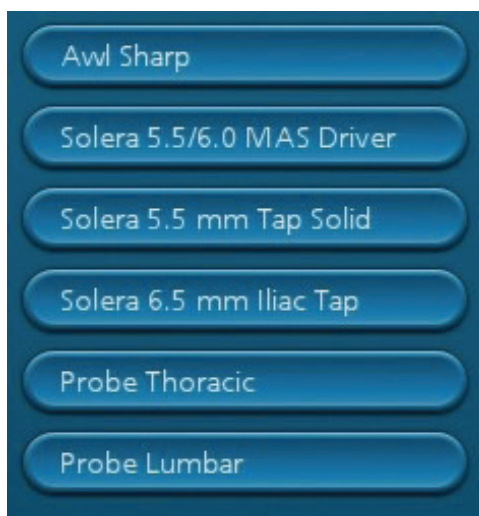

Figure 3
- Once on the “Navigate” screen, click the “Select Tip” button and select the appropriate instrument toolcard for the Vital Navigation System instrument intended to be navigated per Table 1 (Figure 3).